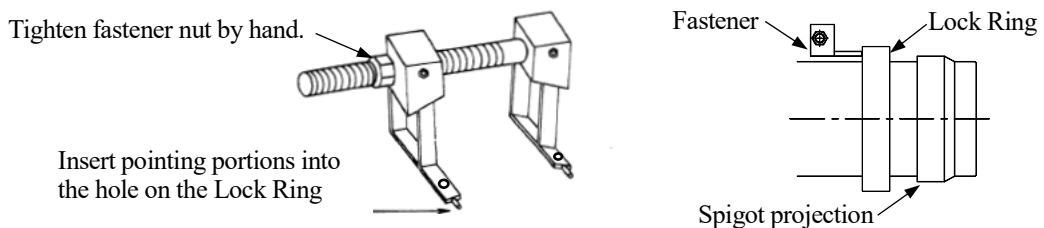

Figure-7 Lock Ring Fastener
(4) Set up the Lock Ring Fastener on the pipe. Insert both the pointing portions of the fastener into the holes of the Lock Ring. Then tighten the fastener nut by hand until the Lock Ring lightly contacts the spigot surface. (See Figure-7.) Ensure the Lock Ring and spigot projection are positioned parallel to the spigot end around the spigot.